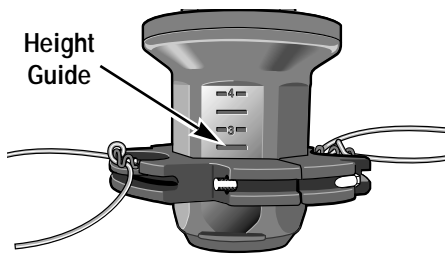

Figure 4-2
3. The cutting heights are stamped into the spindle head (Figure 4-2). Move the top of the trimmer head to the desired setting.